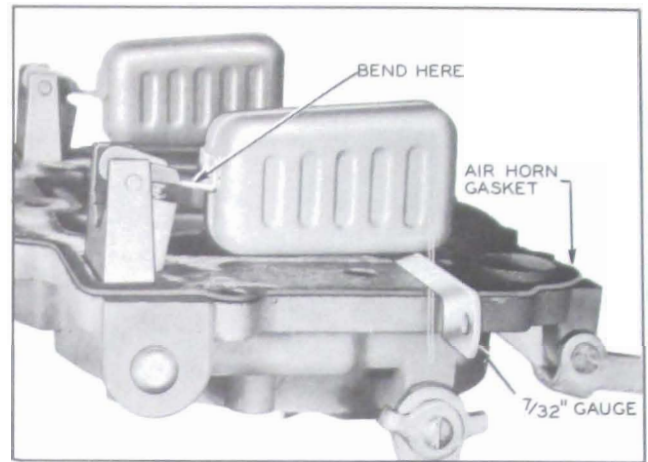

Figure 3-40—Checking Float Level
10. **Adjust Float Level.** With air horn inverted and air horn gasket in place, check clearance between each float (at outer end) and air horn gasket using 7/32" Gauge or a 7/32" drill. See Figure 3-40. To adjust, bend float lever. After any adjustment, recheck float alignment.